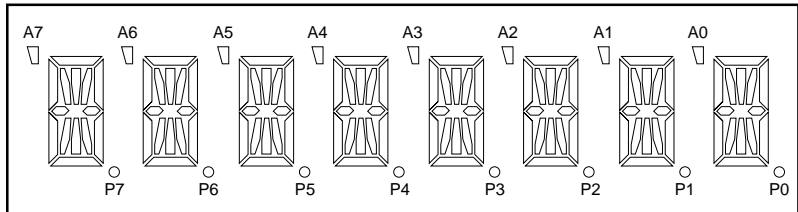

Fig. 5.5.4
**(2) When segment memory is assigned to COH-EFH**
**Specifications** This application example, in which the assignment shown in (1) is made to the segment data memory area COH-EFH, is the "column display routine 'DSSG'" and the "apostrophe and period display routine 'DSSGA'". Both assume, as in (1), that eight columns of the LCD panel are to be used. The SEG (0 + 4·n) pin for the LCD's first column is assigned to segment memory COH, and the remaining 31 pins are assigned in order.
The pin assignment for the apostrophe and period assignments are not shown in (1). They are assigned in the manner shown in Figure 5.5.4.